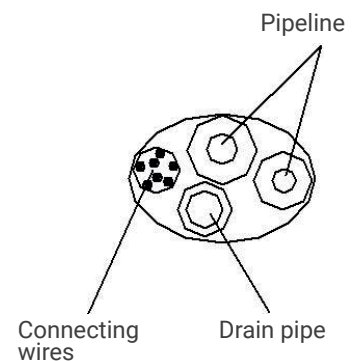

Fig.6
1. Connecting right back tube (similar to right lower tube) (optional, Refer to Fig.6)